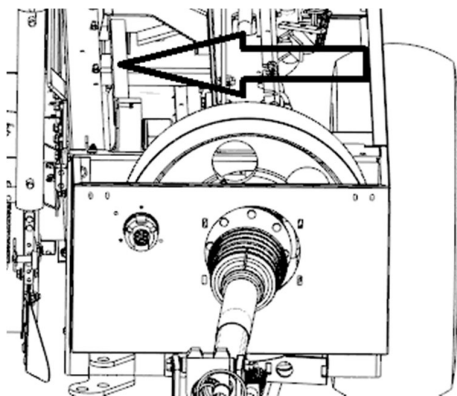

Figure 39: Working Direction of Flywheel
- Position of piston is set by rounding of flywheel to the working direction (Figure 39).